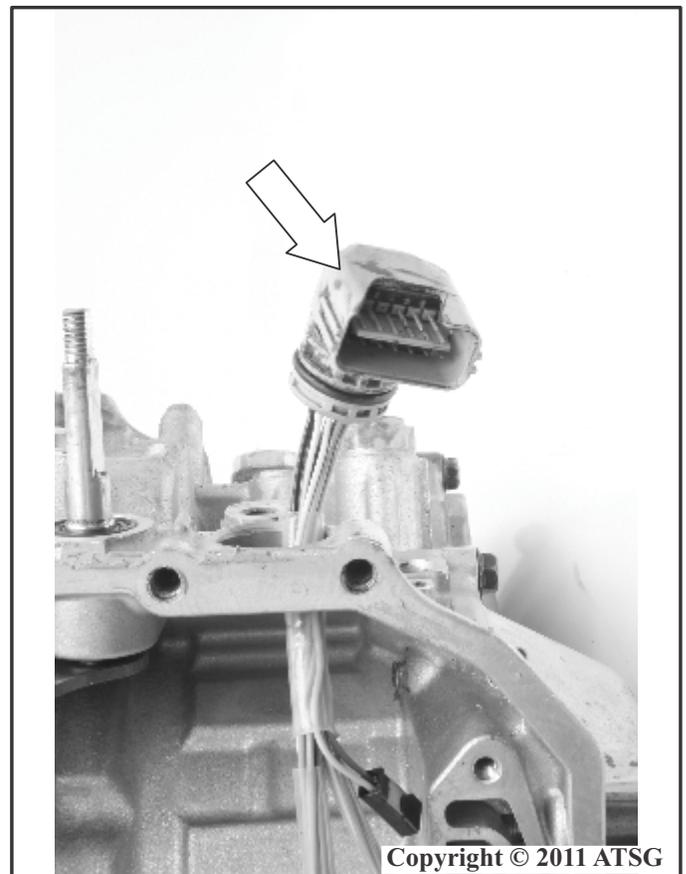

Figure 28
26. Using a twisting motion, carefully remove the transmission wiring harness assembly from the transmission as shown in Figure 28.